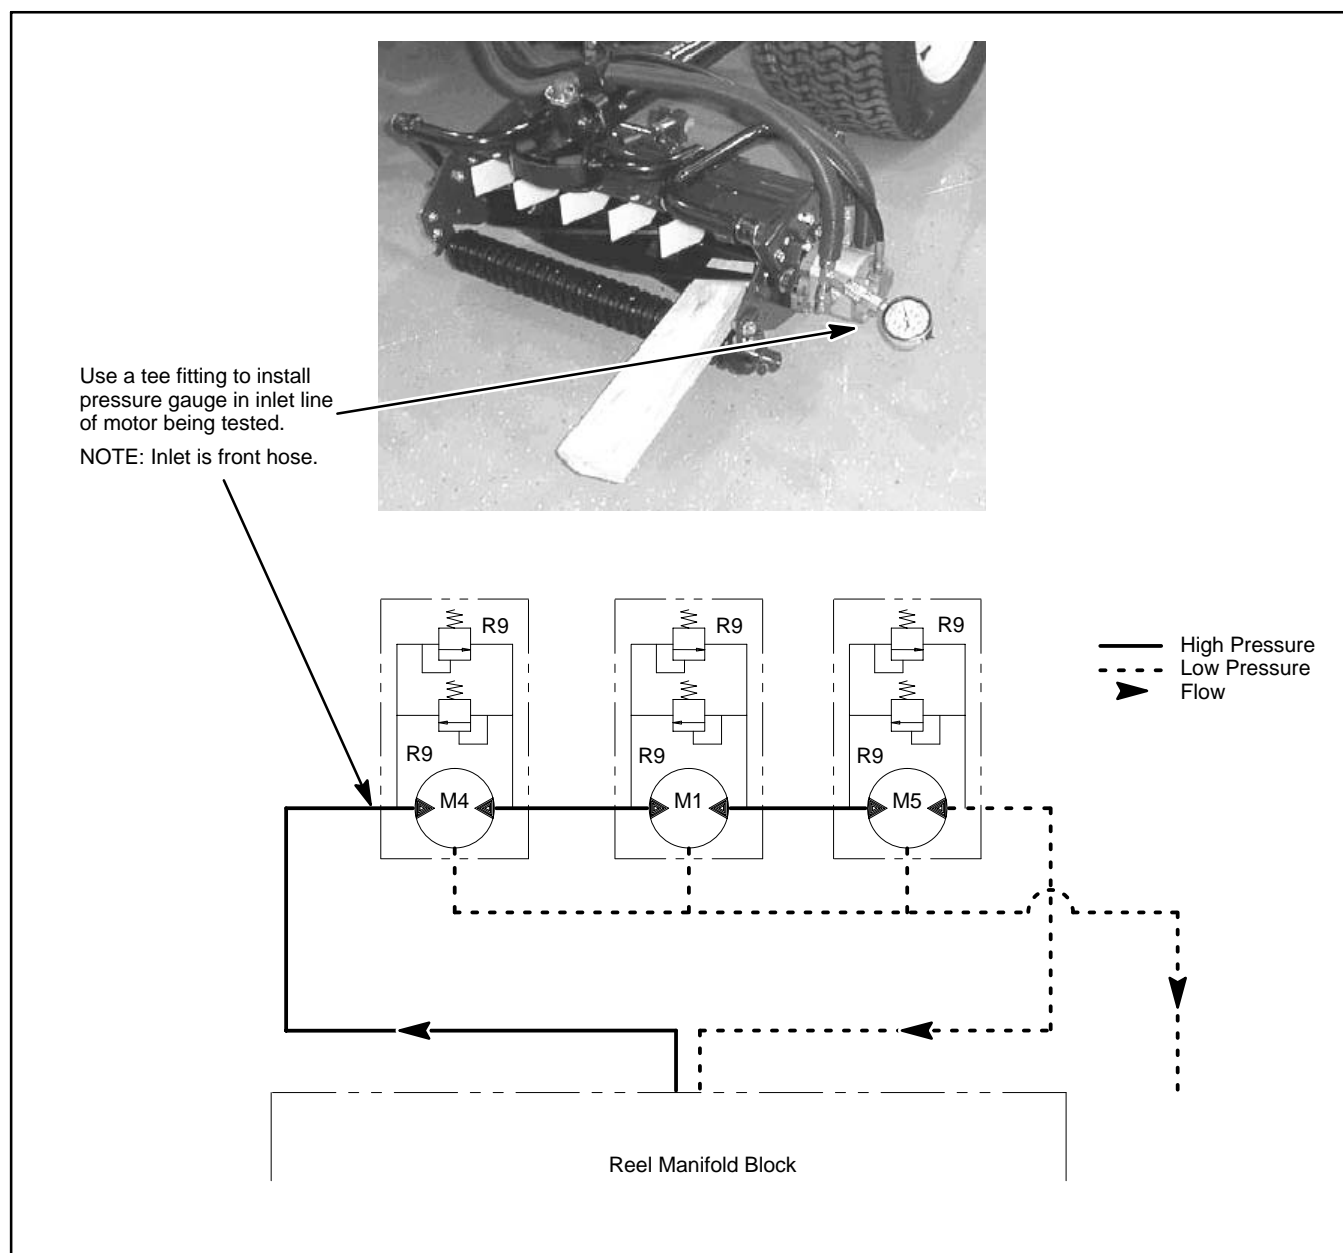

Figure 20
4. Install a tee fitting between the motor inlet fitting and hose. Install a 5000 PSI (350 Bar) pressure gauge on the tee fitting (Fig. 20).
6. With cutting units in lowered position and engine OFF, insert a block of wood between cutting unit reel blades and front cross tube of cutting unit to prevent reel from turning (Fig. 20).